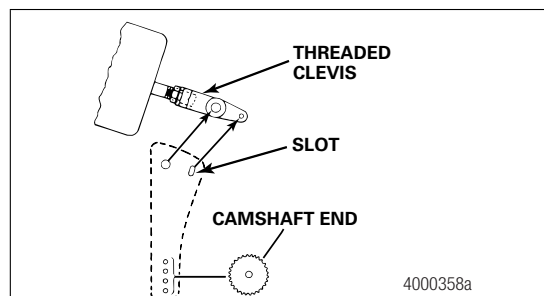

Figure 5.15
- **If the small clevis hole doesn't align within the slot:** Adjust the clevis until you can see the small clevis pin hole within the slot. Figure 5.15.